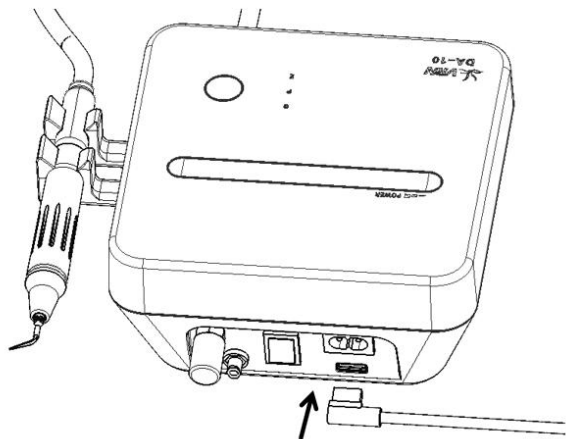

Figure 2.3
3) Insert the plug of the wired foot switch into the foot switch socket(See Figure 2.3).